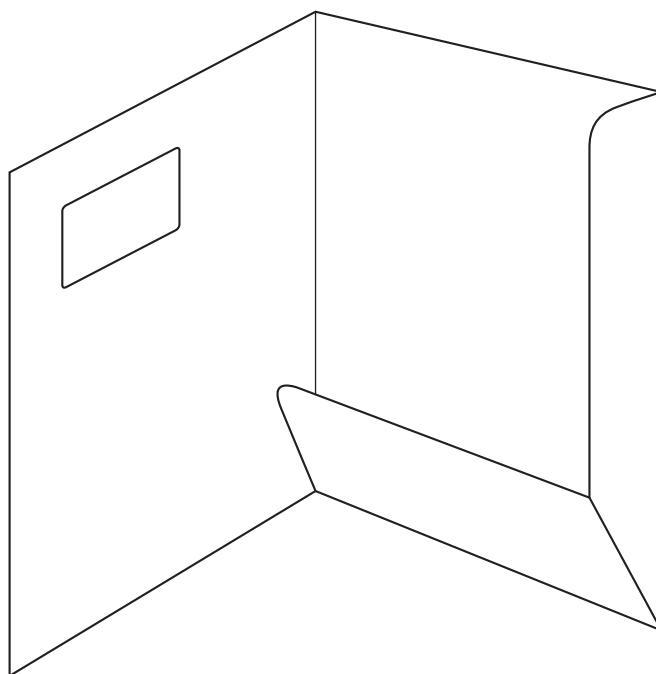

Fig. 5
Fig. 5 shows an A4 folder used for promotional literature.
- (a) Give **four** justified design requirements for the promotional A4 folder shown in Fig. 5.
- (e) (i) State a **suitable specific material** for the promotional A4 folder shown in Fig. 5 and give **two** properties or characteristics that make the material suitable for this use.
- (ii) Describe, in detail, how the promotional A4 folder shown in Fig. 5 would be manufactured as a batch of 50,000. Include details of specific equipment used.